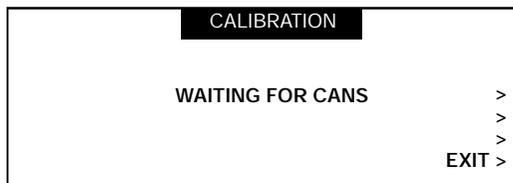

Fig. 5 CALIBRATION PROCESS screen
3. To start the calibration process, press CALIBRATE. The screen shown in Figure 5 will appear. After four (4) containers are sprayed the system will calibrate and return to the main screen.